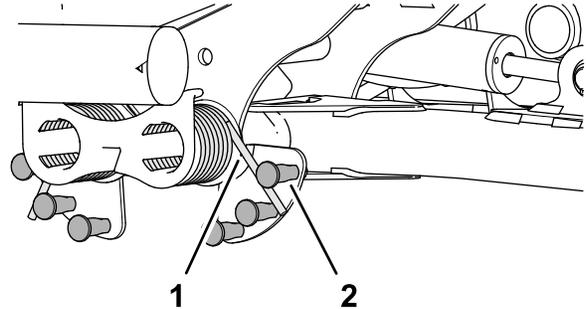

Figure 91
2. Insert the long end of the counterbalance spring into a tube or similar object, and pivot the spring around the shouldered stud to the desired position (Figure 91).